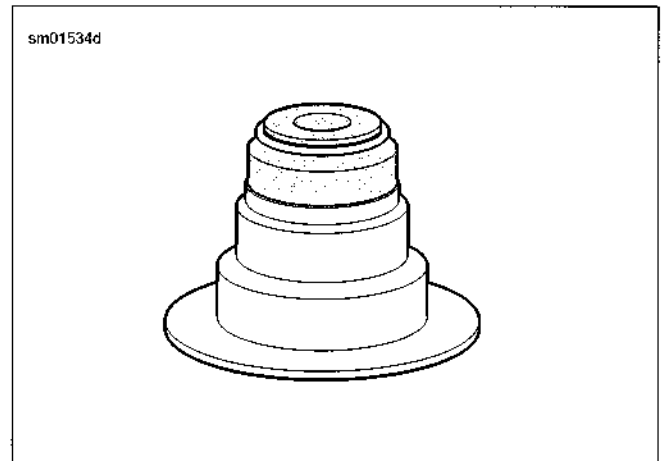

Figure 3-44. Valve Seal and Lower Valve Collar Assembly (seal and lower collar replaced as assembly only)
- See Figure 3-44. The valve seal is incorporated into the lower valve collar and is installed by hand. NO SPECIAL TOOLS ARE REQUIRED.